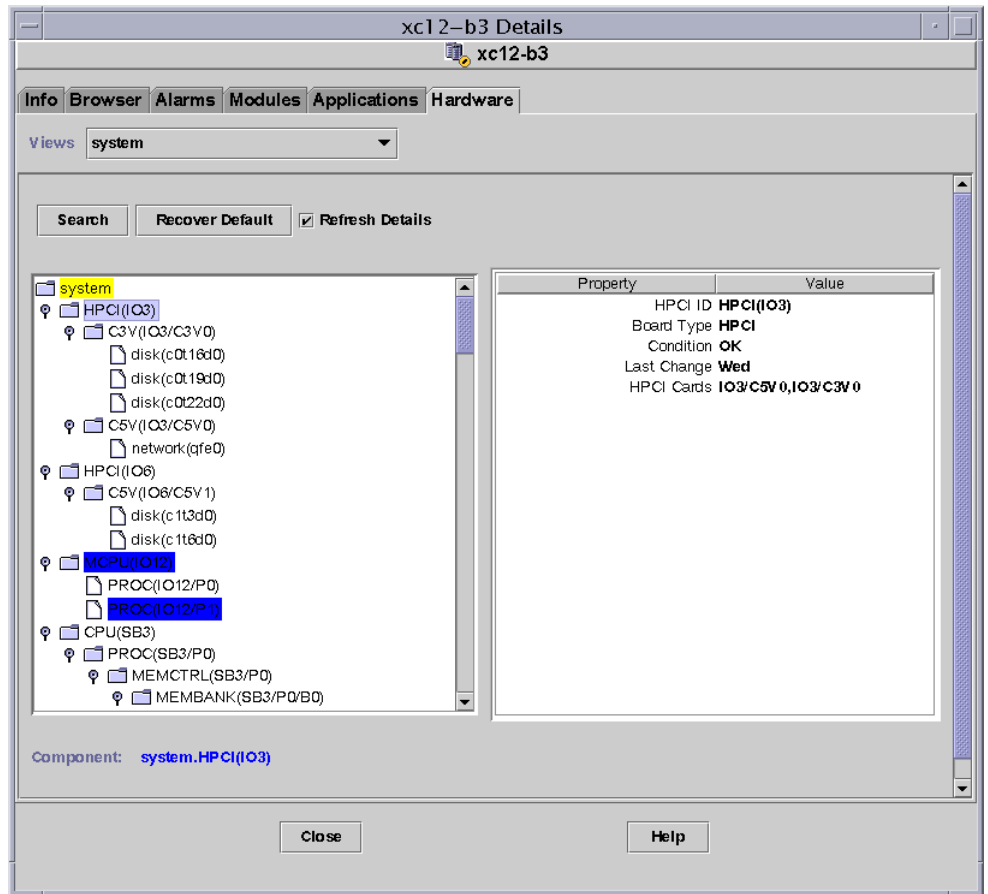

FIGURE 5-8 Sun Fire High-End Systems Domain Logical View
4. Click on the Expand All button and then click on an object in the left pane to see a logical view similar to FIGURE 5-8.